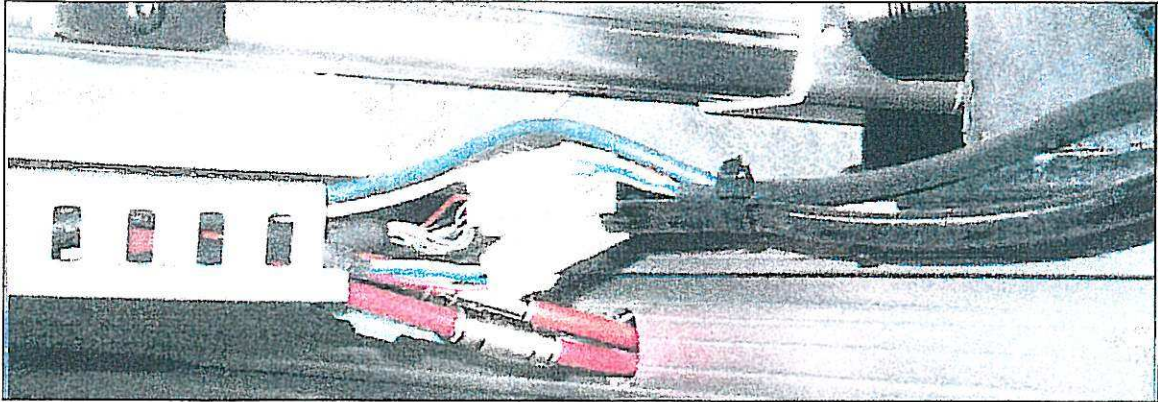

Figure 2.7
K. Connect wire plugs and air hoses at the rear of each Y-rail. See *Figure 2.7*.
L. Connect cable plugs for Y-axis servo motor. See *Figure 2.7*.